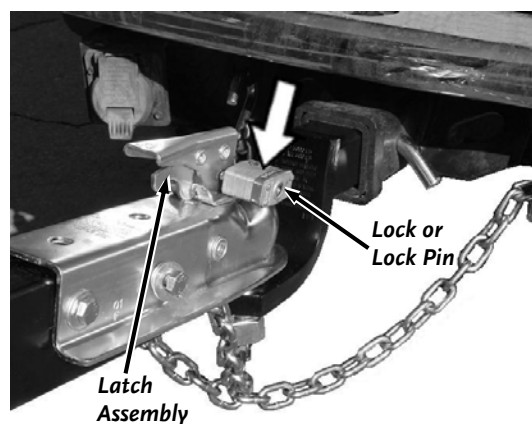

Figure 71
4. For extra safety and security, you may want to purchase a Lock or Lock Pin to install into the Latch Assembly of the Tow-Hitch Package (**Figure 71**).